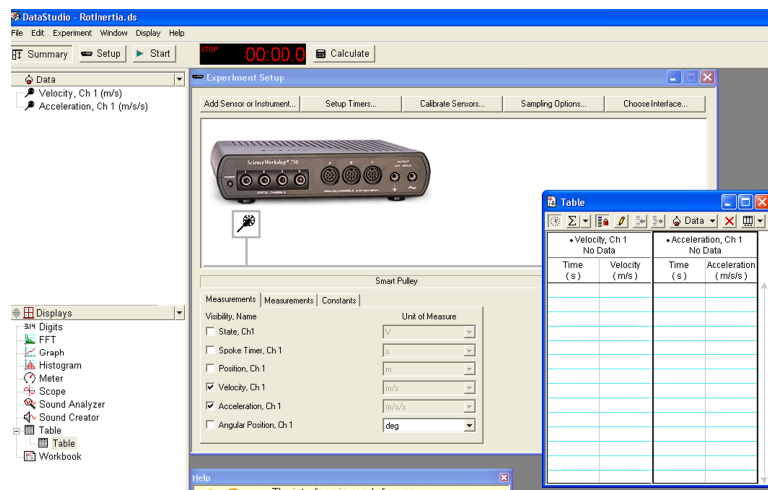

Figure 3: Start-up screen for rotational inertia lab
- 5 Open the *DataStudio* file associated with this lab. A screen similar to Fig. 3 is displayed.